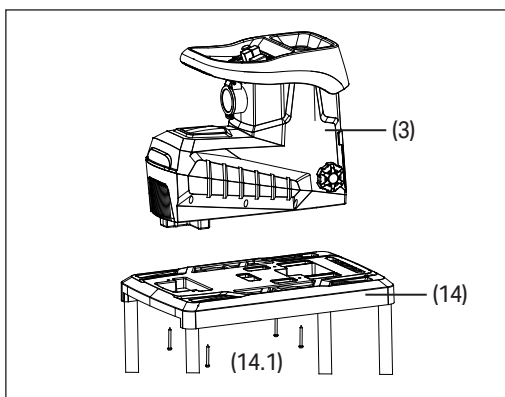

Fig.4
6.3 Fitting the Shredder Assembly to the Base Frame (Fig.4)
1. Position the shredder assembly (3) on top of the base frame (14).
- Assemble correctly as shown in Fig.4.